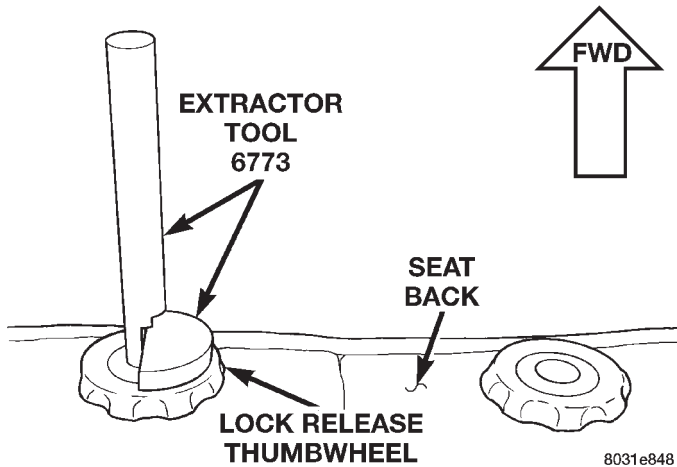
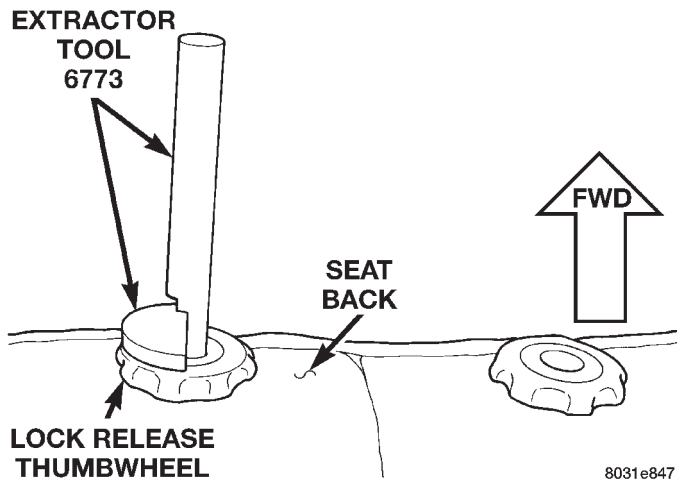

Fig. 3 Head Restraint Sleeve Extractor Positioning
Fig. 4 Head Restraint Sleeve Extractor Positioning
- (4) The retaining tabs are positioned on each side of the sleeve, when inserting the extractor, ensure that the flat of the collar is facing the side of the seatback (Fig. 3).
- (5) Using a small hammer, tap extractor downward to release sleeve retaining tab.
- (6) Remove extractor tool from sleeve, rotate tool 180 degrees (Fig. 4) and repeat steps 3 and 4.
- (7) Remove extractor tool from sleeve and remove sleeve from seat back.